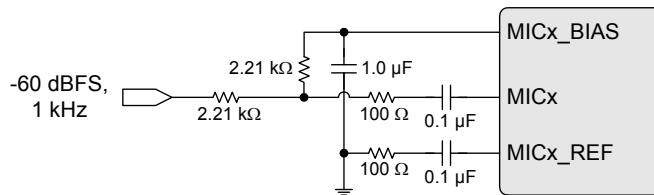

Figure 2. MICx Dynamic Range Test Configuration
13. Includes noise from MICx_BIAS output through series 2.21 kΩ series resistor to MICx. Refer to Figure 2 below. Input signal is -60 dB down from corresponding full-scale voltage.